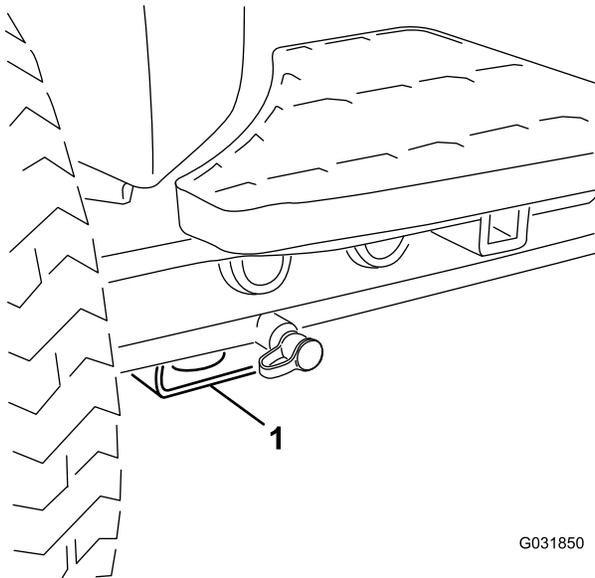

Figure 72
- Front—rectangular pad, under the axle tube, inside each front tire (Figure 72).